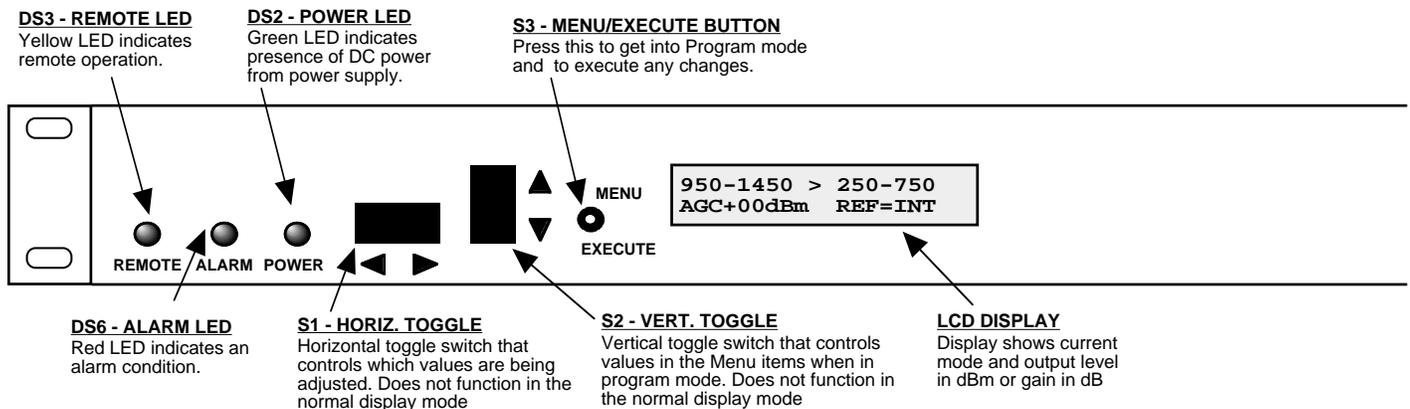

FIGURE 2.2 2083-158 Front Panel Controls and Indicators
Figure 2.2 shows the front panel controls and indicators.
5. Be sure DS6 (green, DC Power) is on and DS2 (red, Alarm) is off (Figure 2.2).
Alarm indications appear on the LEDs (see Figure 2.2).